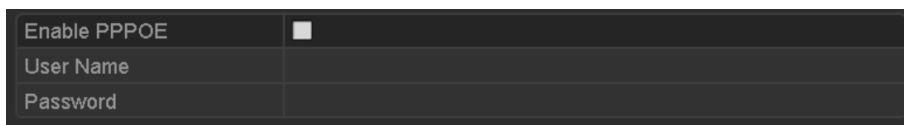

Figure 11. 2 PPPoE Settings Interface
2. Select the **PPPoE** tab to enter the PPPoE Settings interface, as shown in Figure 11. 2.